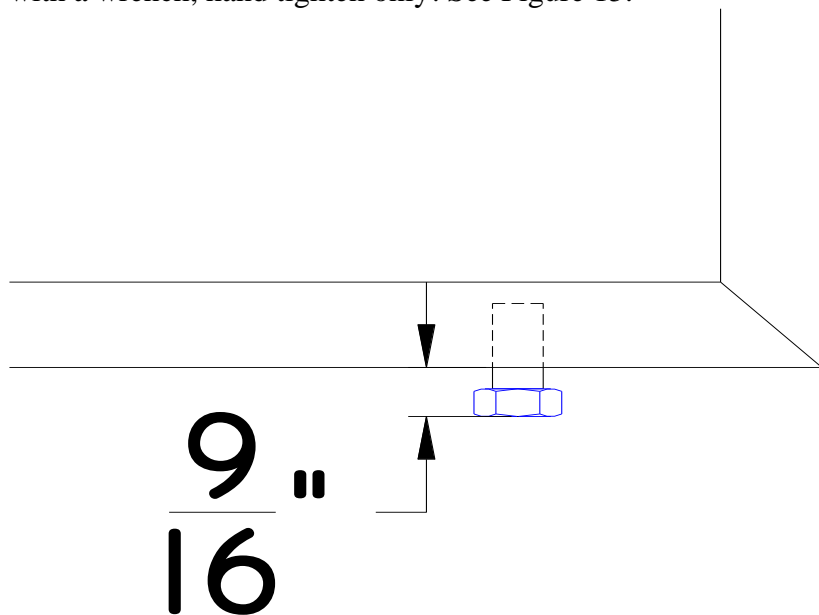

Figure 15.
5. Leave the bolts extending out of the plug approximately $\frac{9}{16}$ " as shown. Do not tighten them with a wrench, hand tighten only! See Figure 15.